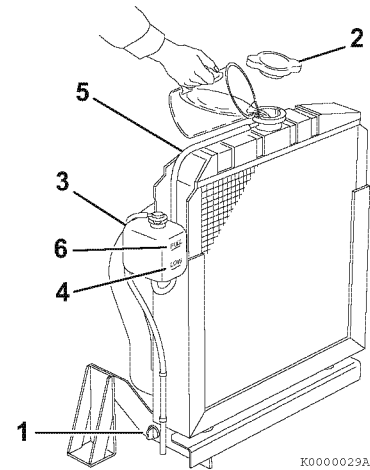
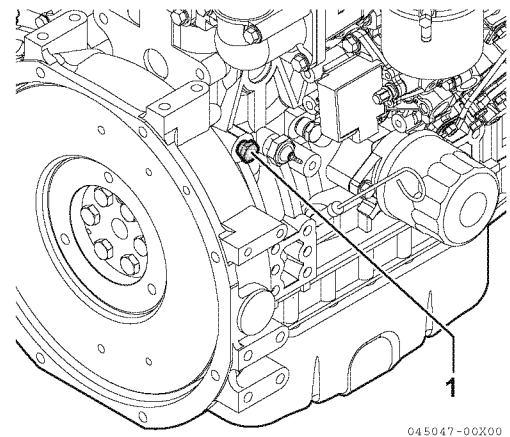

Figure 5
Figure 6
1. Check to be sure the radiator drain plug is installed and tightened or the drain valve (1, Figure 5) is closed. Also make sure the coolant drain plug (1, Figure 6) in the cylinder block is closed.
- Remove the radiator cap (2, **Figure 5**) by turning it counterclockwise about 1/3 of a turn.
- Reinstall the radiator cap (2, **Figure 5**). Align the tabs on the back side of the radiator cap with the notches on the engine coolant filler port. Press down and turn the cap clockwise about 1/3 of a turn.
- Remove the cap of the reserve tank (3, **Figure 5**), and fill it to the LOW (COLD) mark (4, **Figure 5**) with engine coolant. Reinstall the cap.
- Check the hose (5, **Figure 5**) that connects the reserve tank (3, **Figure 5**) to the radiator. Be sure it is securely connected and there are no cracks or damage. If the hose is damaged, engine coolant will leak out instead of going into the reserve tank.
- Run the engine until it reaches operating temperature. Check the level of engine coolant in the reserve tank. When the engine is running and the engine coolant is at normal temperature, the coolant level in the reserve tank should be at or near the FULL (HOT) mark (6, **Figure 5**). If the coolant is not at the FULL (HOT) mark, add coolant to the reserve tank to bring the coolant level to the FULL (HOT) mark.
- Check the level of engine coolant in the reserve tank. When the engine is cold, the coolant level in the tank should be at or slightly above the LOW (COLD) mark (4, **Figure 5**) on the coolant reserve tank.
If the coolant level is at the FULL (HOT) mark (6, **Figure 5**) when the engine is cold, the coolant will expand when it becomes hot and possibly spray out of the overflow hose.